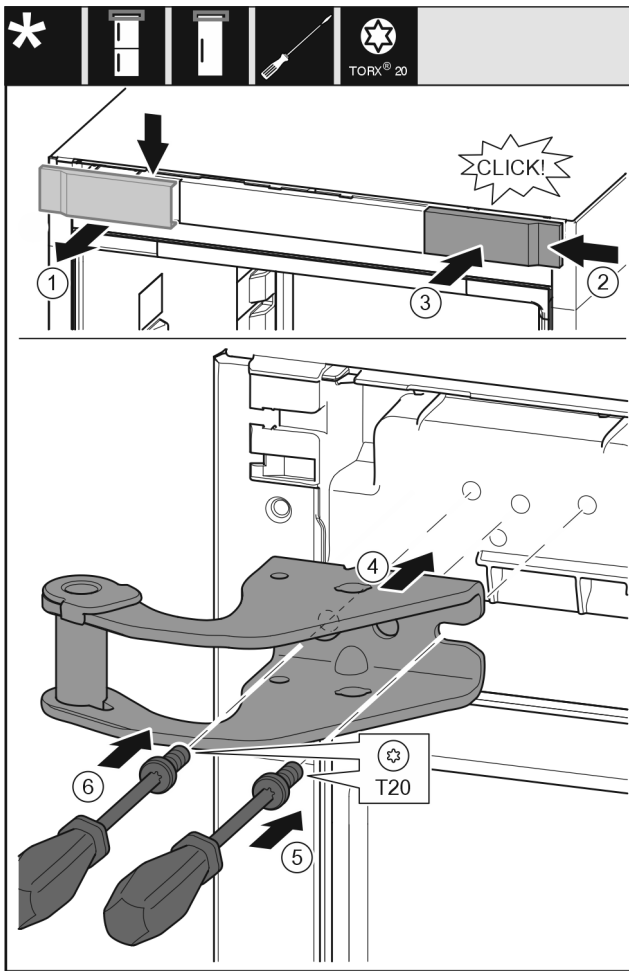

Fig. 29
- Take off the cover to the front from above. Fig. 29 (1)
- Rotate the cover 180° and clip onto the other side from the right. Fig. 29 (2)
- Latch the cover into place. Fig. 29 (3)
- Position the upper bearing bracket. Fig. 29 (4)
- Insert the screw with a T20 screwdriver and tighten it. Fig. 29 (5)
- Insert the screw with a T20 screwdriver and tighten it. Fig. 29 (6)